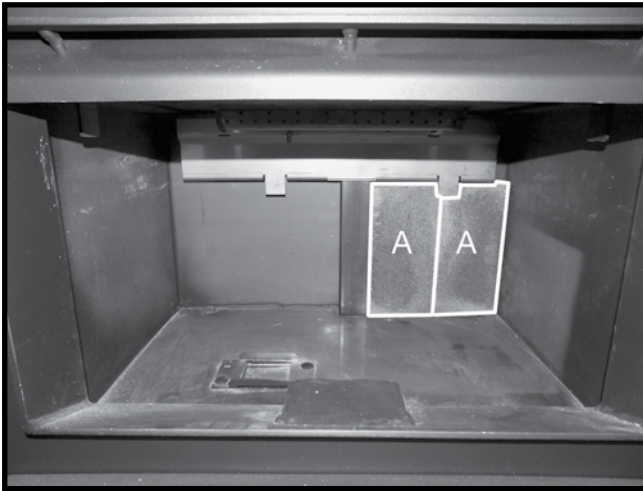

Figure 21: Right side rear wall brick A placement.
1. Stand two "A" firebricks vertically behind the right tab located on the brick rail. Slide the firebrick toward the center of the rear wall (Figure 21).